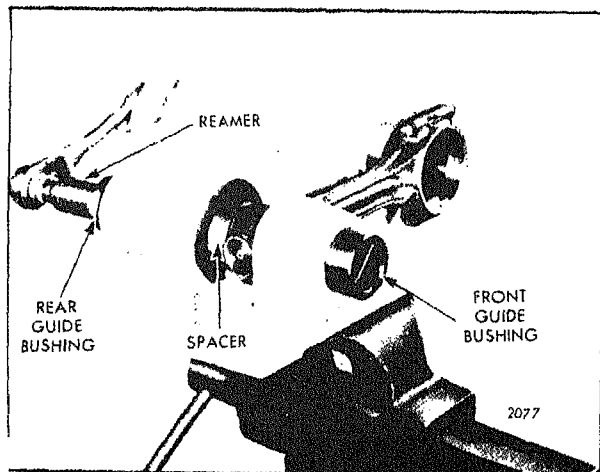

Fig. 8 - Reaming Bushings
c. Place the crankshaft end of the connecting rod on the arbor of the fixture (Fig. 8). Tighten the nuts on the 3/8"-24 bolts (In-line engines) to 40-45 lb-ft torque.